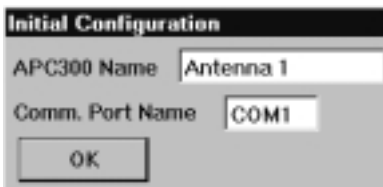

Figure 1.
1. The first time that the program is run, the dialog shown in figure 1 will be activated allowing for operator entry of the device name for the serial port used to communicate with the APC300 and for entry of a descriptive name for the antenna. The device name of the serial port and the antenna name may be changed later through the Configuration Property Sheet.